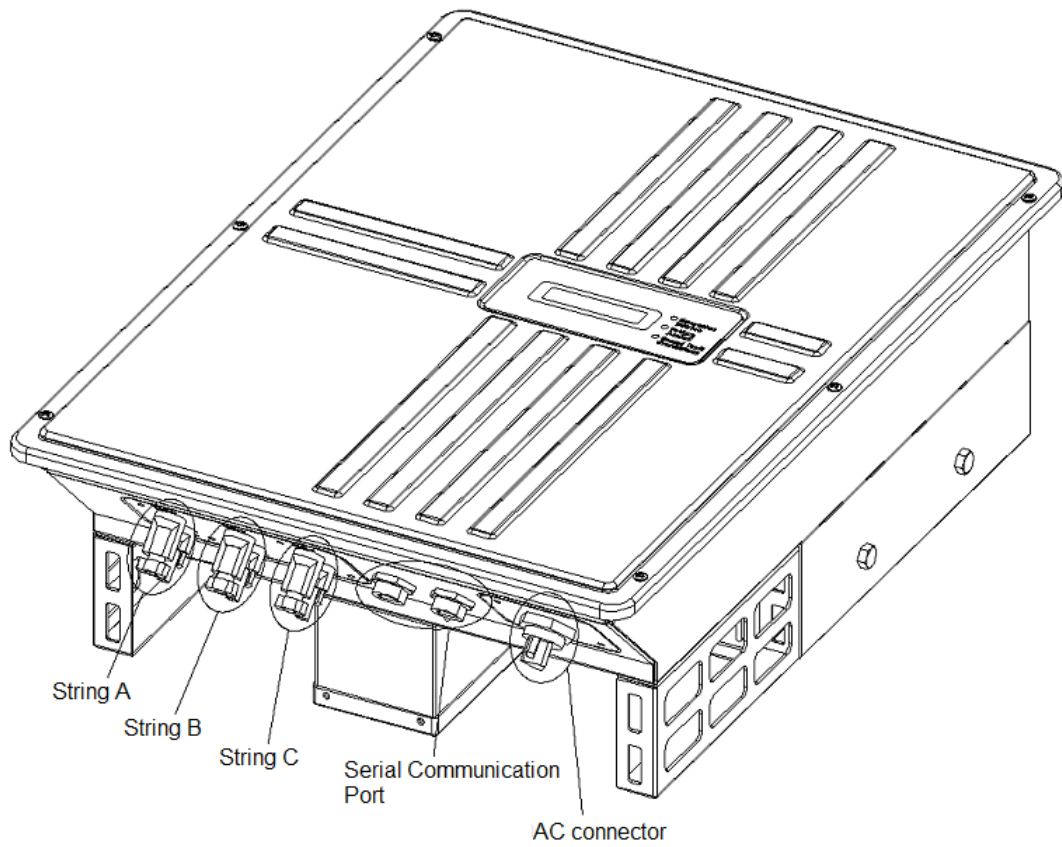
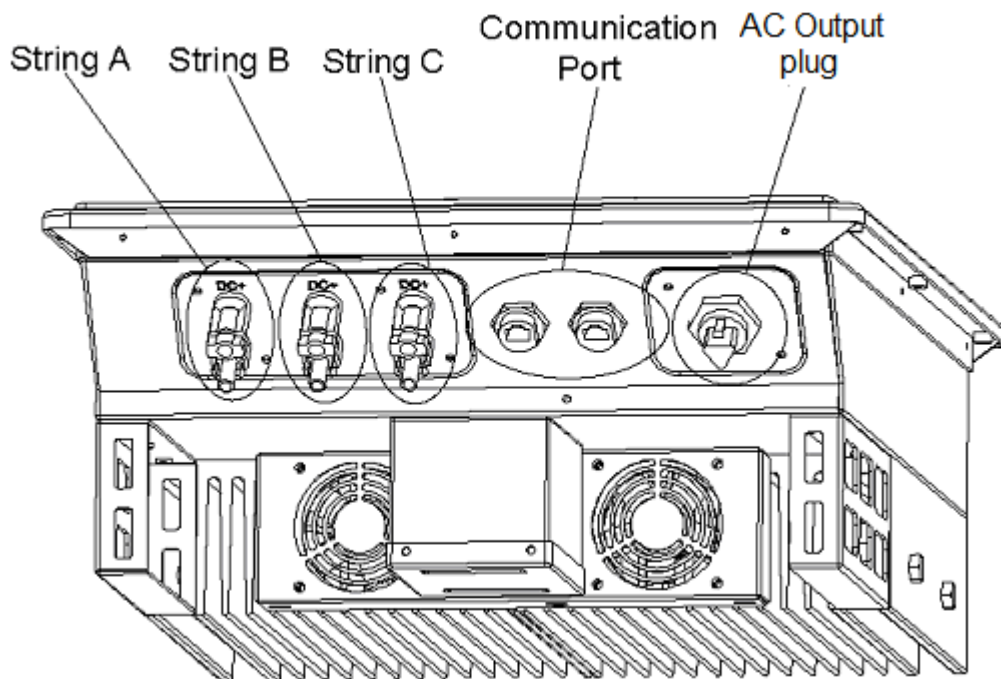

Fig 3.3.1 Wiring compartment front view
Fig 3.3.2 Wiring compartment bottom view
The following three sections describe the connections of wirings for the AC, DC, and communication ports. ISMG160DE has three (3) pairs of DC connection terminals, string A, B, and C, while ISMG150DE and ISMG145DE have only two (2) pairs of DC connection terminals, string A and C. All three models have two (2) RJ-45 connectors, and one (1) AC connection terminal on the bottom of the inverter shown in the Figure 3.3.1 and Figure 3.3.2. DC connection terminals are used to connect to PV strings through circuit breakers that shall be placed close to the inverter. RJ-45 connectors are used for external communication to a remote computer or terminal. AC connection terminal is used to connect to the mains utility through a circuit breaker that shall be closed to the distribution panel. Each pair of the DC connection terminals shall be connected to one PV string with the maximum rating listed in section 1.2. It is recommended to supply 350 VDC to each string although the MPP voltage range is within 100 and 450 VDC.